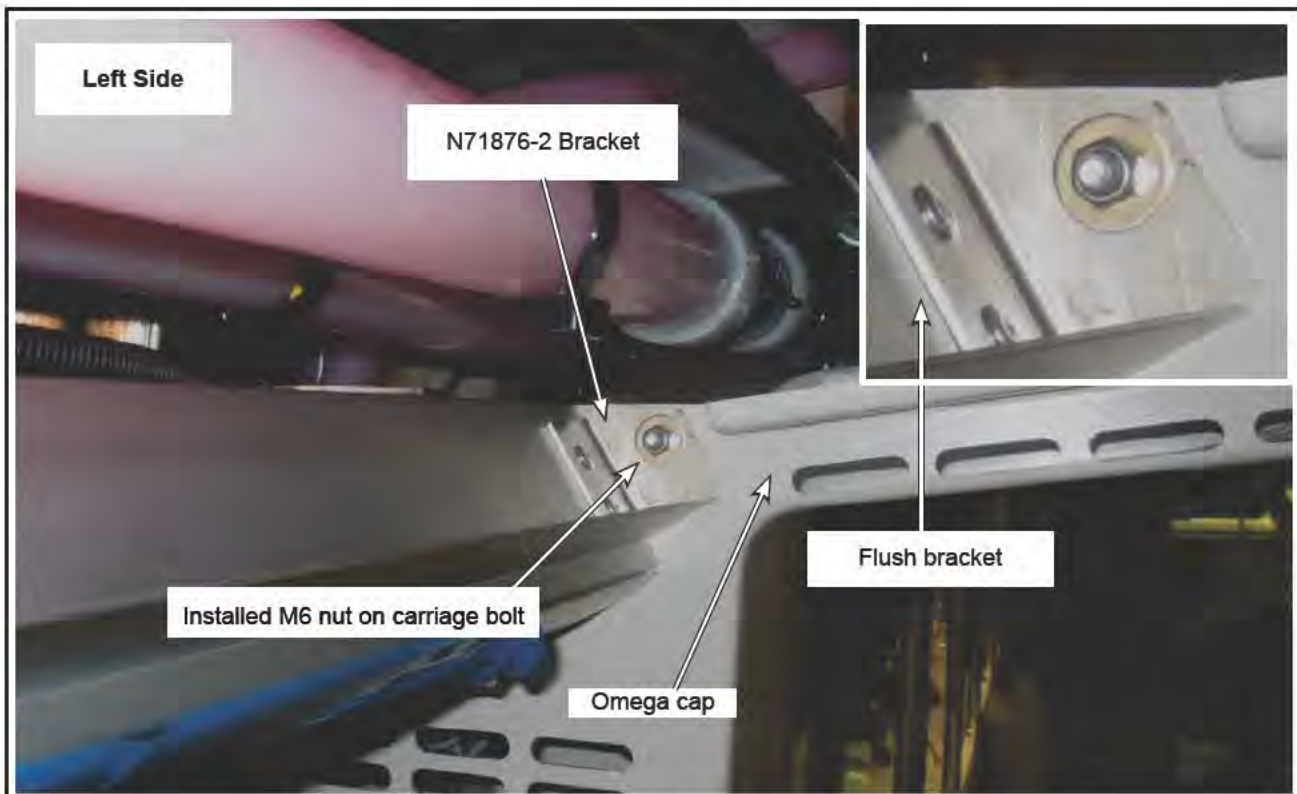

Figure 1 - M6 Nuts Installed and Brackets Flush
- 1.1. At the vehicle's rear podium, remove the left- and right-hand side rearmost baselight access panels. With the baselight access panels removed, you will have access to the omega cap transition on both sides of the vehicle. See Figure 1.
- 1.2. Unscrew the M6 nuts from the carriage bolt. Discard the nuts. See Figure 1.
- 1.3. Insert brackets (N71876-2 on the left; N71876-1 on the right) onto the tip of the carriage bolts. See Figure 1.
- 1.4. Install the new M6 nuts (N44683) onto the carriage bolts and tighten them. Verify that the brackets are flush against the baselight panel walls. See Figure 1.